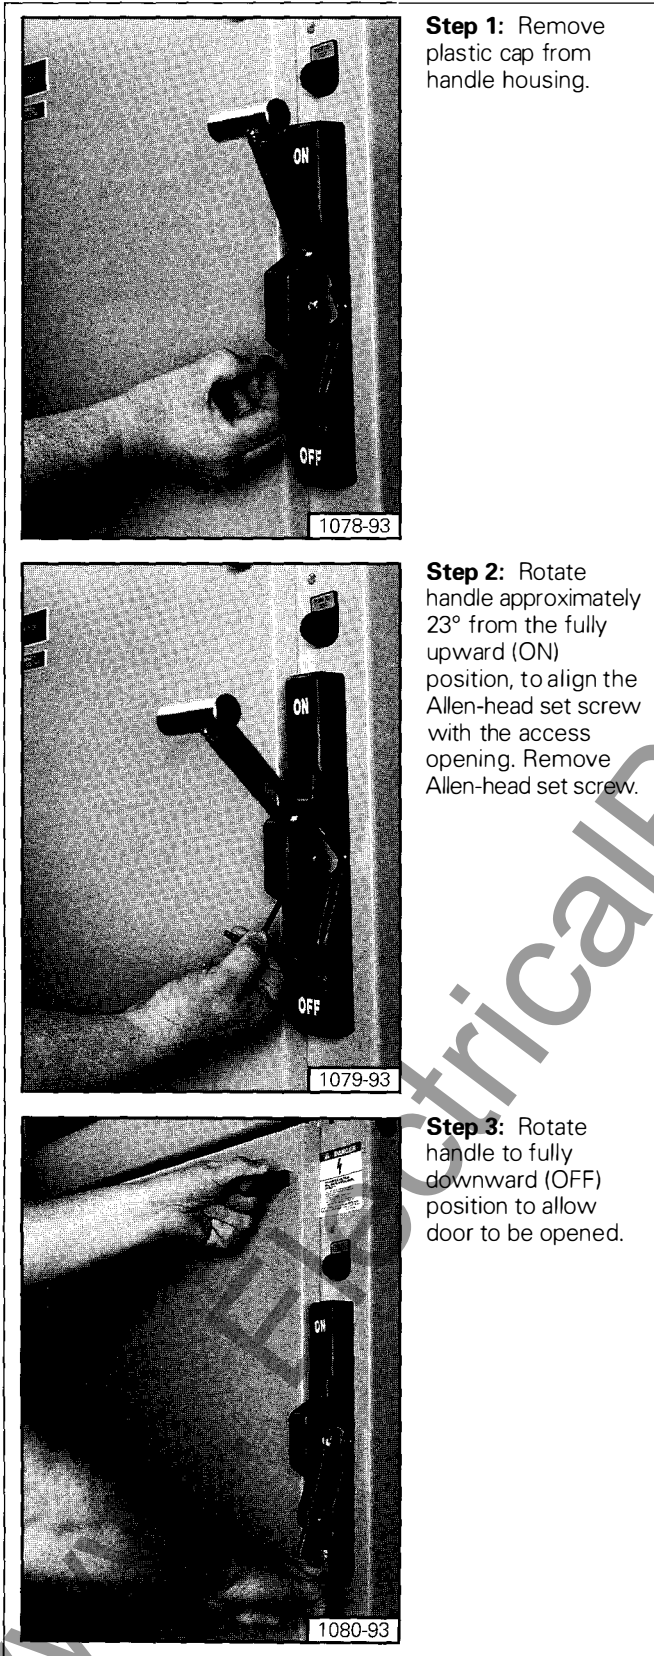

Figure 8. Procedure for defeating the door-handle interlock
The def eater can be reached by removing a plastic cap from the lower part of the handle housing, then by removing the Allen-head set screw. The racking handle must be rotated approximately 23 degrees from the fully upward (ON) position of the handle in order to align the Allen-head set screw with the access opening. When the Allen-head set screw is removed, the handle can then be moved to the OFF position allowing the door to be opened. Refer to **Figure 8**.